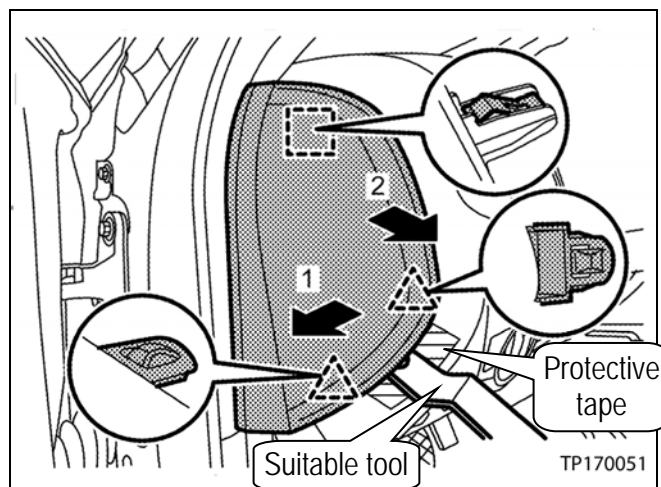

Figure 20
- Remove both masks as shown in Figure 20.